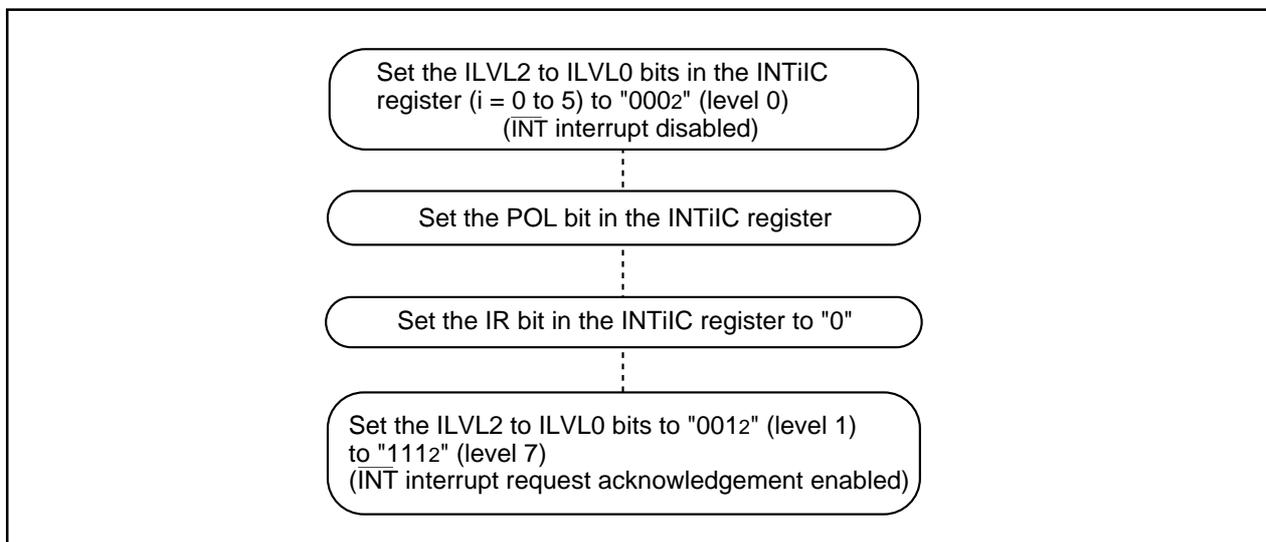

Figure 24.3 Switching Procedure for $\overline{\text{INT}}$ Interrupt
- The IR bit setting may change to "1" (interrupt requested) when switching the polarity of the $\overline{\text{INT0}}$ to $\overline{\text{INT5}}$ pins. Set the IR bit to "0" (no interrupt requested) after selecting the polarity. Figure 24.3 shows an example of the switching procedure for the $\overline{\text{INT}}$ interrupt.